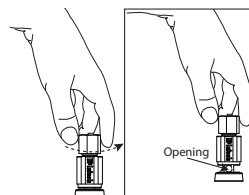

Figure 08– Opening Output Terminal
- Rotate the end of the Output Terminal Post counterclockwise until an opening appears (Figure 08)
- Insert the Loudspeaker hookup cable into the Output Terminal Post opening or the cable spade lug around the center post of the Output Terminal (Figure 08)